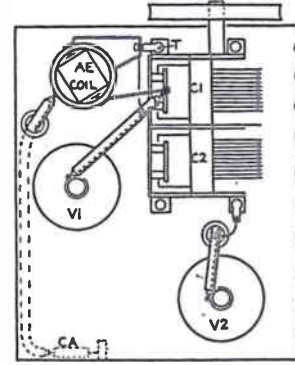

Fig. 3—Top chassis connections
Again see that the earthing connections of condenser and chassis are clean, and remember to attach solder tags to the foot of the condenser at (T) (Fig. 3) and the opposite diagonal corner.
The aerial coil should be mounted beside the condenser, after this is fixed (see Fig. 3).
Screened lead is also used for the aerial connection to the aerial coil from the aerial socket at the chassis back, and also for joining of top cap V1 to the variable condenser section one (see Fig. 3).